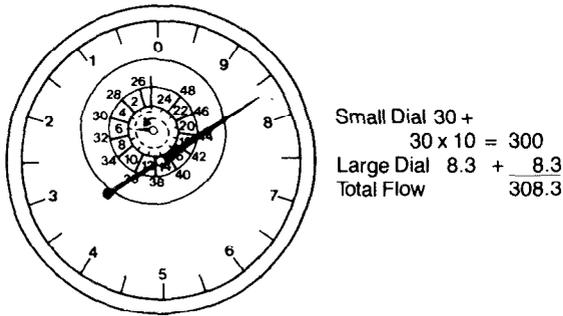

Figure 128 — Dial Indicator — Example of Upper Reading
- o. If the small hand on the test stands dial indicator has made more than one revolution (see Fig. 128), use the outer ring of figures (26-48) and multiply by ten, then add the reading of the large hand.